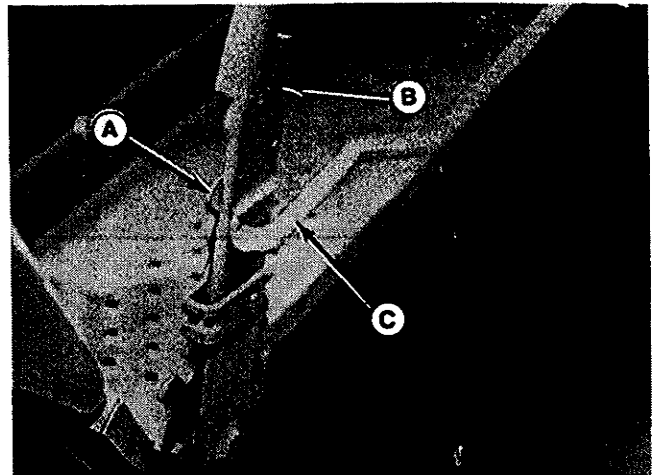

Figure 6. Lift Rod
8. Place the lift lever in fully forward position. Insert the rear end of the lift rod thru the left lever as shown in figure 6 and insert the spring clip (A).
1. Disconnect the lift rod from the tractor lift lever by removing one spring clip (A, figure 6). Store the spring clip in the lift rod.